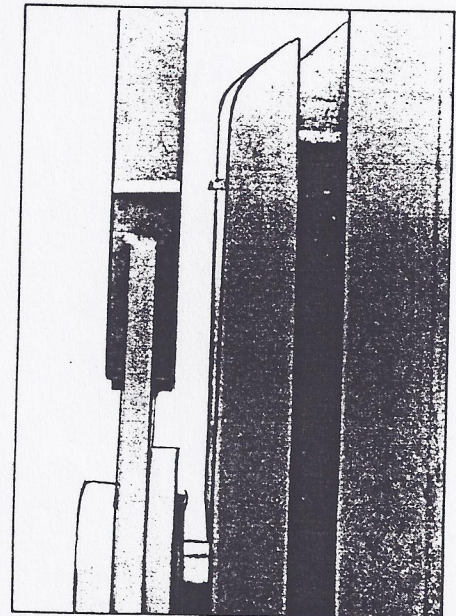

Figure 22
- a. Check distance between end of crankshaft and pitman arm and be sure it is the same on both sides; if not, move walking beam to equalize this distance. Tighten bolts, beam to center bearing. See illustration in Figure 22.